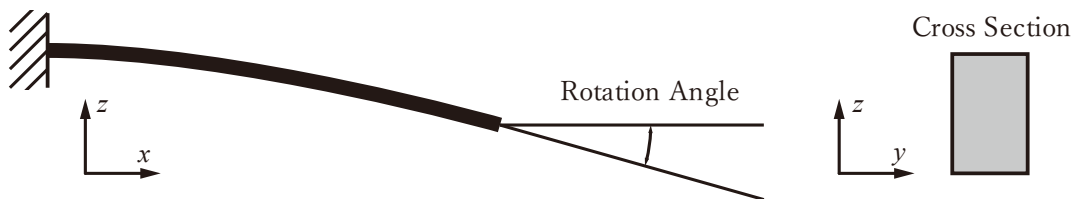

Fig. 3-1 Horizontal cantilever beam with rectangular cross section
- (1) Answer the following questions on mechanics of materials:
- (2) Consider the deformation of the horizontal cantilever beam with rectangular cross section under its own weight, as shown in Fig. 3-1. The material is homogeneous, its density is ρ , Young’s modulus is E , and the gravitational acceleration is g . Assume the infinitesimal displacement and material deformation within the linear elastic range. Also, suppose that the Bernoulli-Euler assumption holds.